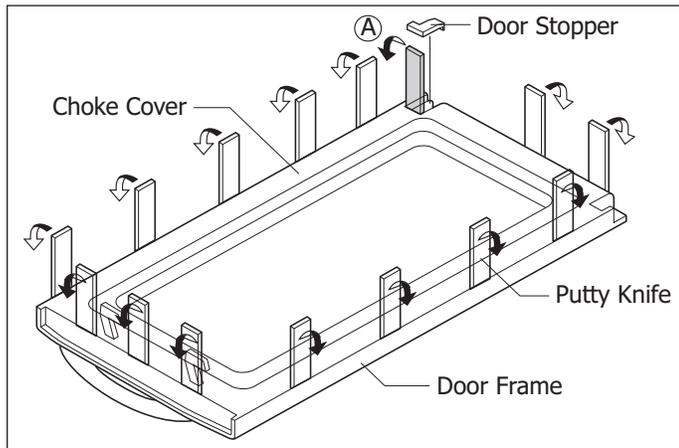

Figure 4-10. Door Disassembly
5. Insert a putty knife (thickness of about 0.5mm) into the gap A between the door stopper and the choke cover as shown in Figure 4-10 to free engaging parts.
8. Insert a putty knife (thickness of about 0.5mm) into the gap A between the choke cover and door stopper and between the choke cover and the door frame as shown Figure 4-10 to free engaging parts.
9. Pry the choke cover by inserting a putty knife in order shown in Figure 4-10